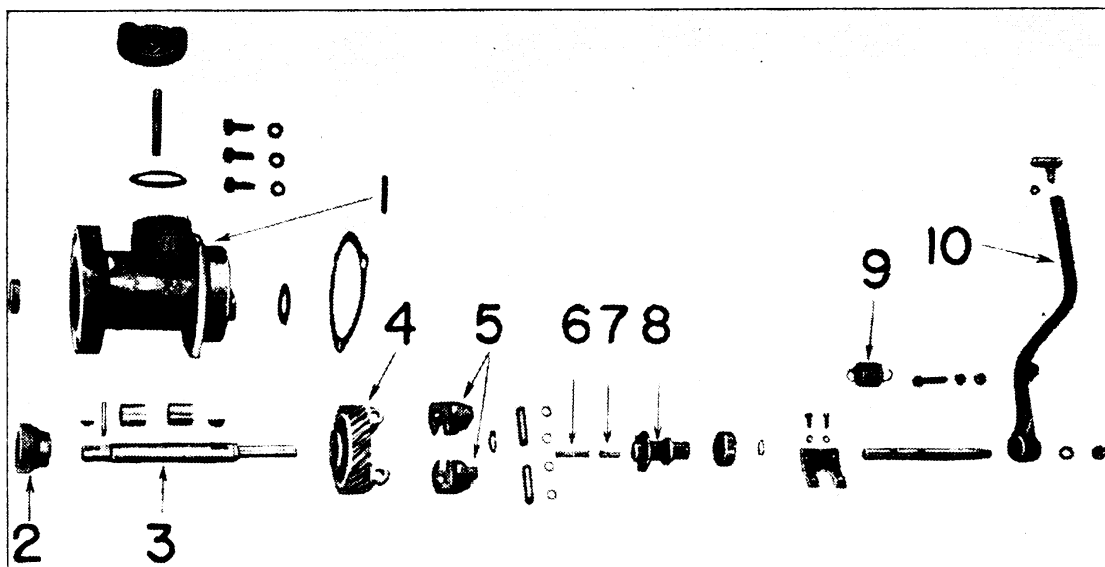

Fig. 25. Details of Governor and Magneto Drive
2. Governor sleeve No. 8 Fig. 25 can now be removed from the end of shaft No. 3 Fig. 25, which is a loose fit and should slide freely. Remove snap ring on governor sleeve and pull off bearing, which is not a tight fit.
3. To remove governor gear No. 4 Fig. 25 from shaft, take off snap ring that holds gear in place. Gear can be pulled with any suitable puller available.
4. Remove Woodruff key from gear end of shaft No. 3 Fig. 25, and pull shaft out through end of magneto bracket No. 1 Fig. 25.
1. If the governor shaft No. 3 Fig. 25 has excessive play in the magneto bracket No. 1 Fig. 25, the bushings should be replaced. Drive bushings out and press new ones into place. Shaft should turn freely when replaced.
- As the worn parts are replaced the complete assembly is again built up. Turn the governor shaft until the driving slot in the magneto coupling No. 2 Fig. 25 is 25 degrees beyond the horizontal position of governor housing.